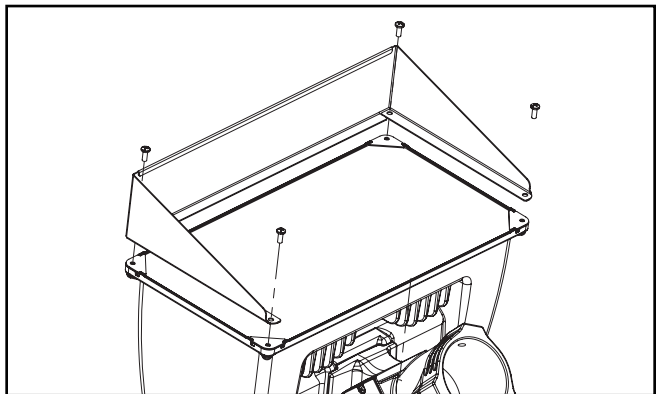

Figure 8.
Visor (Figure 8.)
1. Loosen and remove the existing (4) 10-24 Philips head screws on the face of the fixture and retain for future reference.
2. Align visor on top of lens clips matching the 4 existing holes. (Figure 8.)
3. Retighten (4) 10-24 Philips head screws from step 2 to the face of the fixture.